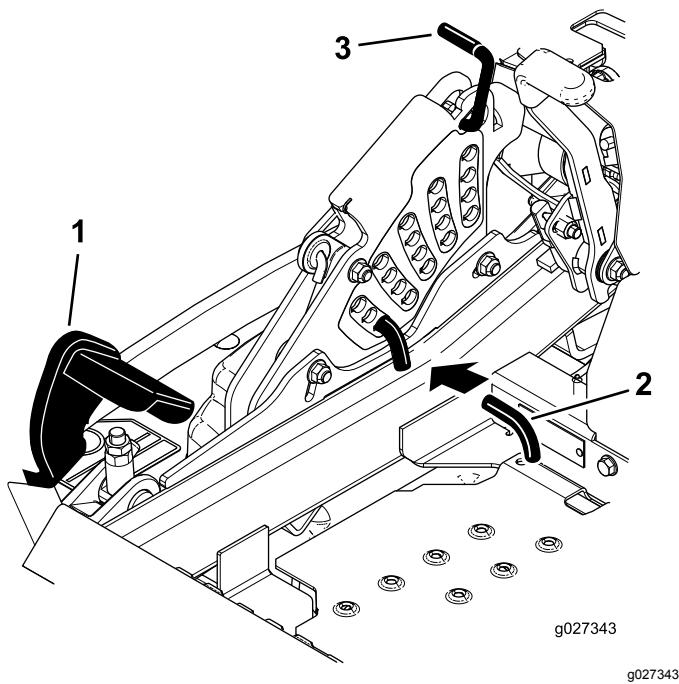

Figure 90
5. Push the deck-lift pedal all the way forward and the deck latches at the 14 cm (5-1/2 inches) transport position (Figure 90).